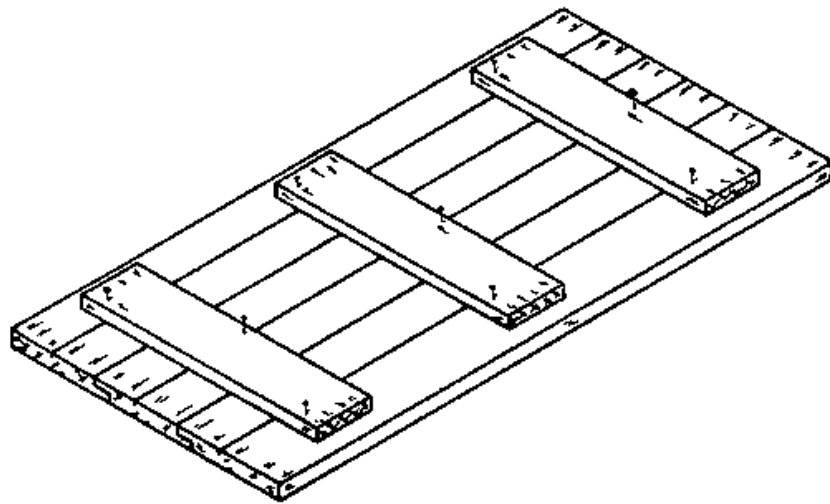

Fig. 3
- l. Nail the ledges lightly to the battens (Fig. 3, previous page).